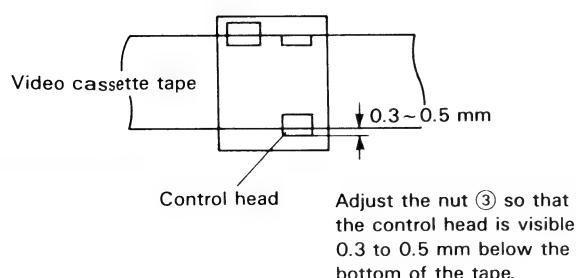

Figure 1-19.
● Replacement (See Figs. 1-19 and 1-20.)
7. Play an alignment tape and roughly adjust the height of the A/C head, visually, by turning the A/C head adjusting hexagon nut ③ with the box driver (JiGDRiVER110-7) until the tape comes to the position shown below. (See Fig. 1-19.)